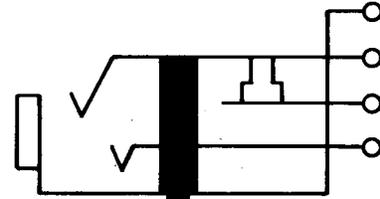

Fig. 7—606C Jack
2.07 606C: This single-mounted miniature jack (Fig. 7) is suitable to be used in equipment where space restrictions are a problem. The springs are made of nickel-silver and are equipped with solder-type terminals. The 606C jack is designed for mounting with the springs in a vertical plane and also mates with a 310 plug. This jack is used in AR432 Circuit Packs in Data systems.